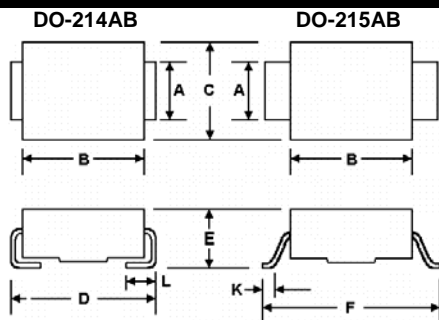

**FIGURE 4
- For Bidirectional device types indicate a C or CA suffix after the part number. (i.e.: SMLG170CA or SMLJ170C). Bidirectional capacitance is half that shown in Figure 4 at zero volts.